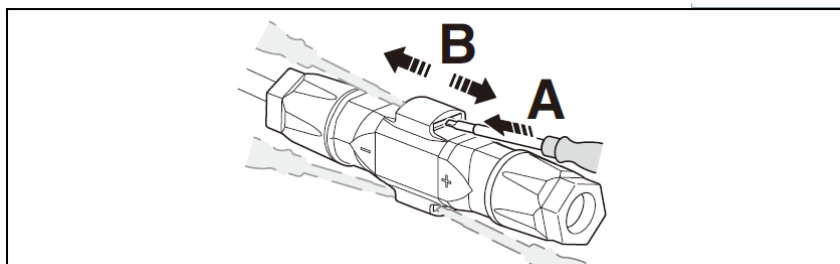

Figure 5-17
- (1) Insert the screwdriver into one of the four openings (Figure 5-17, A).
- (2) Leave the screwdriver in the opening. Pull the two connectors apart (Figure 5-17, B).